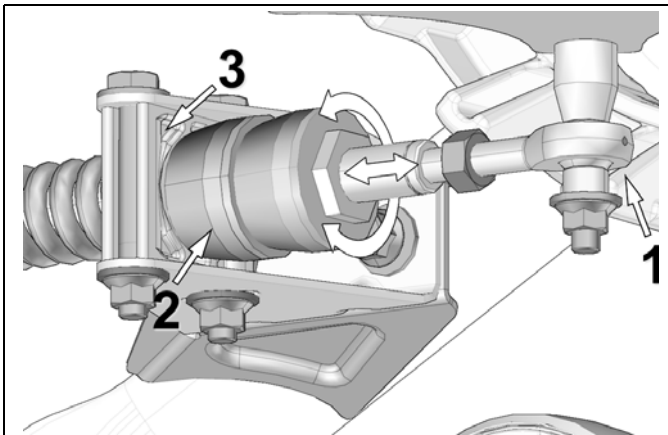

Figure 13
- Turn stabilizing arm nut to adjust length of rod end (1) and get rubber cone (2) to apply light pressure on anti-rotation retainer (3) plate. See Figure 13.